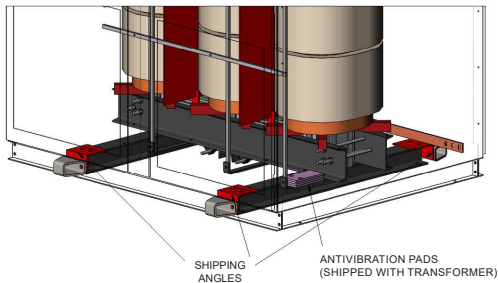

FIGURE 9: AS RECEIVED
1. Do not lift or move a transformer without proper equipment and experienced personnel. Lifting provisions are provided inside of the enclosure on the core/coil only. Always use lifting provisions provided by the manufacturer. DO NOT LIFT THE TRANSFORMER BY THE ENCLOSURE. Rolling and skidding are recommended on transformers with a pre-ordered skidding base (see figure 9).